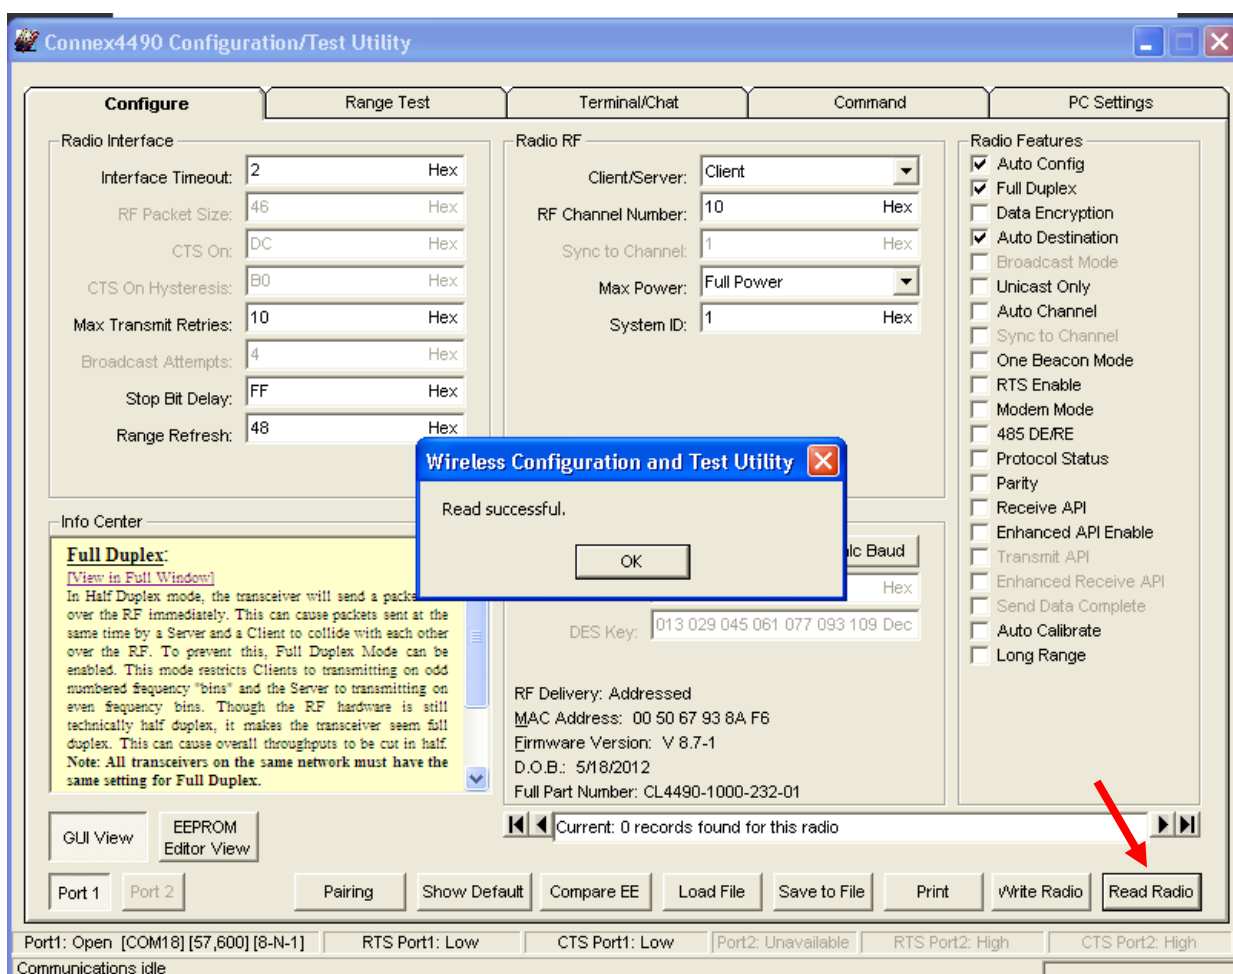

Figure 9: Configure tab - Read Successful
6. Go to the Configure tab and click the **Read Radio** button at the bottom right of the screen. A message stating "Read Successful" should appear after a successful read (Figure 9).